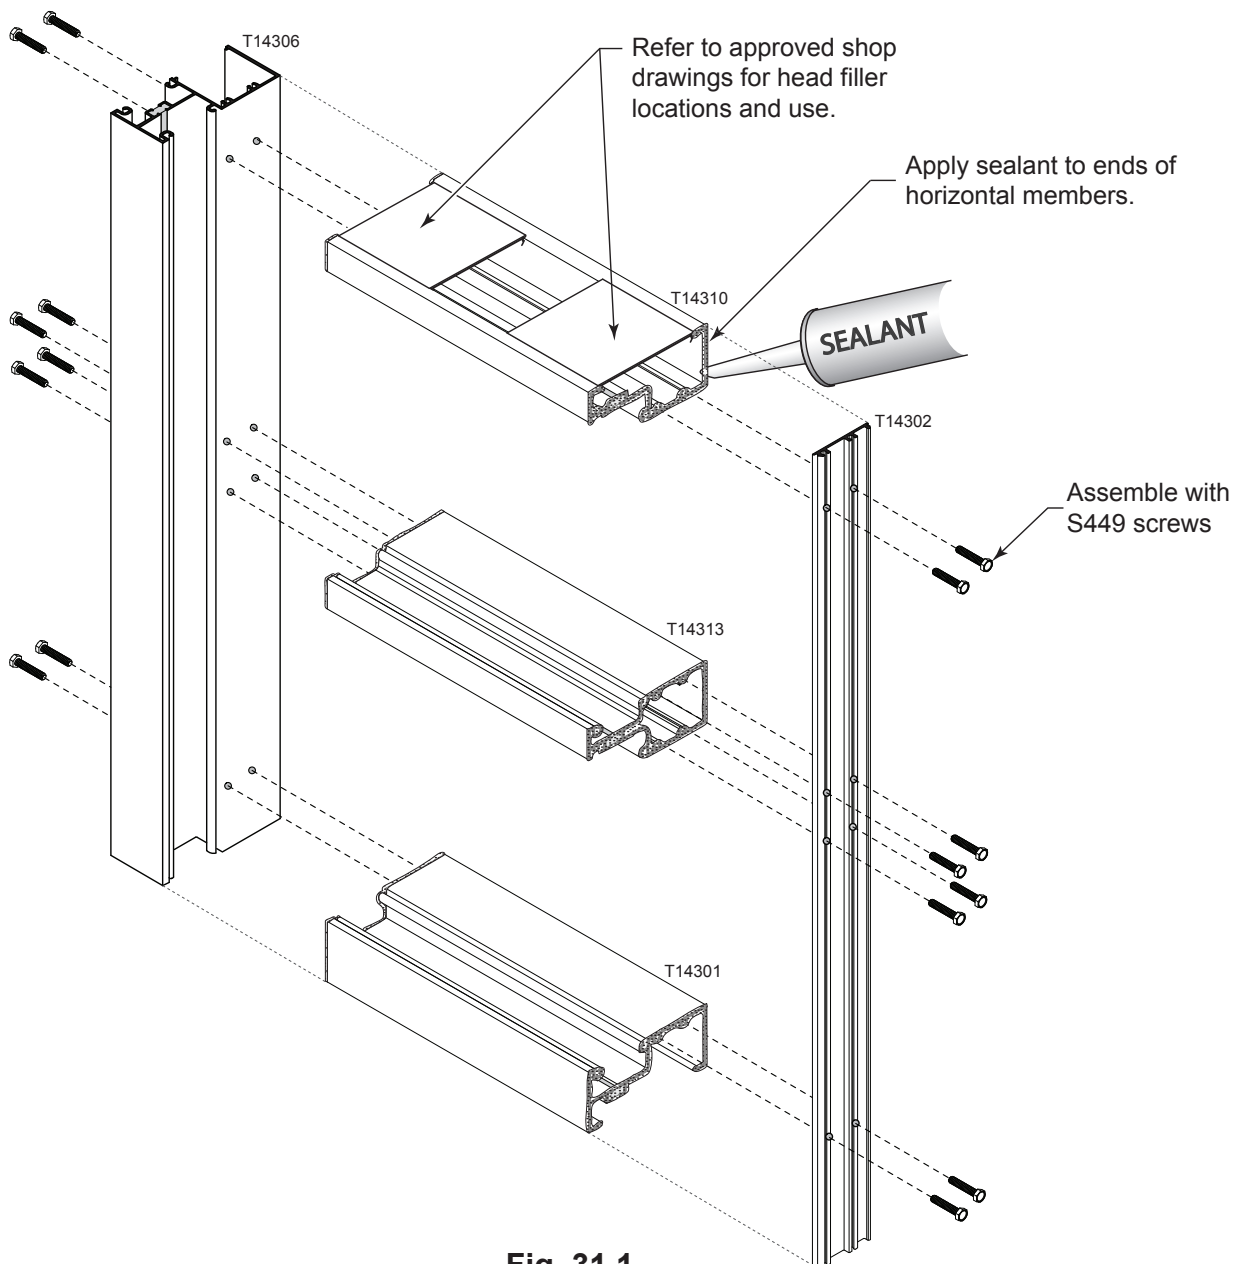

Fig. 31.1
- B. Apply sealant to ends of the head, horizontal, and sill members prior to attaching to the vertical members. See **Fig. 31.1**